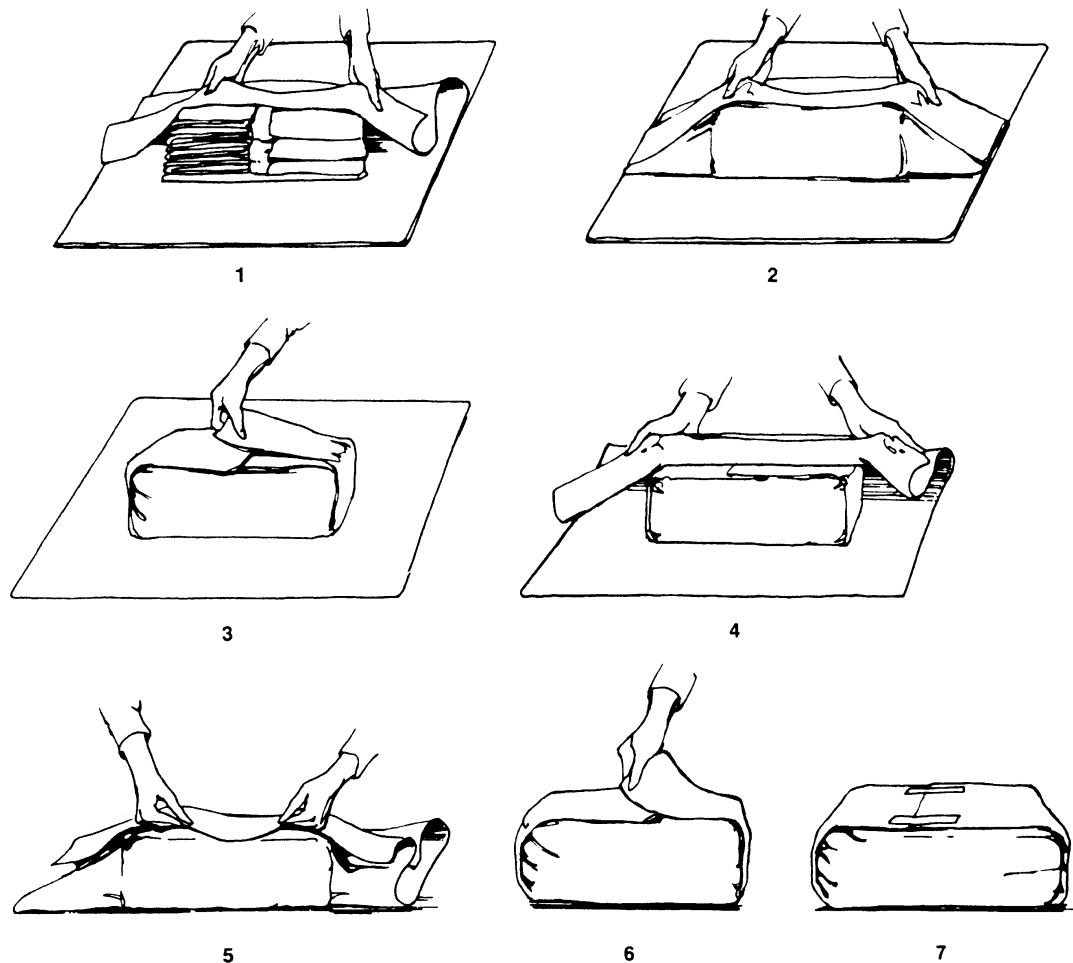

Figure 20. OBLONG METHOD – TEXTILES
- d. You may choose to wrap the contents sequentially in two wrappers using the **oblong method** (Figure 20). Secure with sterilizer (indicator) tape and identify pack contents.